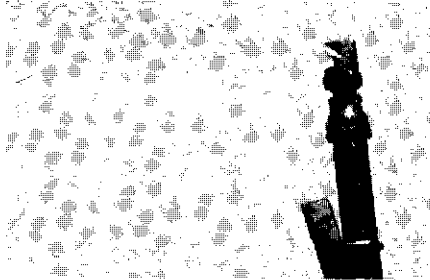

Figure 1-5 Bird's mouth
1. Bird's mouth head (Figure 1-5)